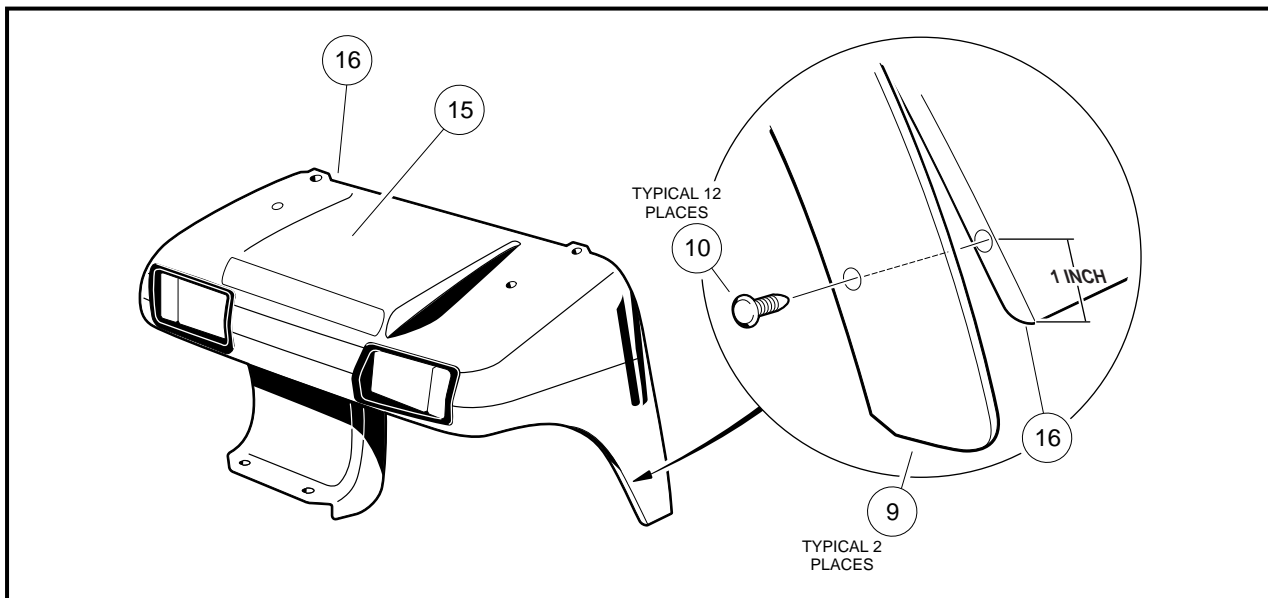

Figure 4-2 Front Fender Extension
- Using a screwdriver covered with a cloth, gently pry the twelve plastic barrels (10) away from the front body panel (16) and remove the fender extensions (9) from the front body (Figure 4-2, Page 4-6).
NOTE: If the front fender extrusion is being installed on a new front body, six 1/4 inch holes must be drilled in each front fender flange. Drill the first hole one inch above the bottom of the flange as shown (Figure 4-2, Page 4-6). Use the remaining mounting holes in fender extension as a guide to transfer drill the remaining holes.